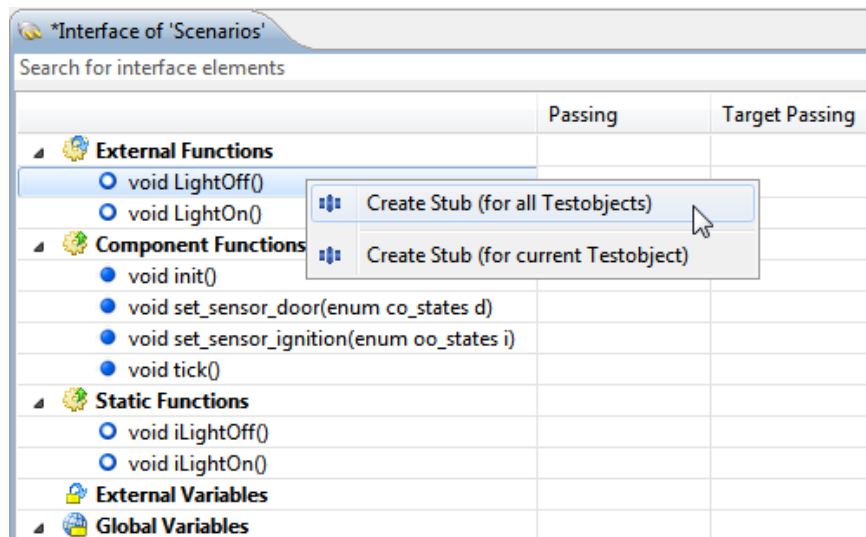

Figure 5.75: Creating the stubs
- Rightclick the function “LightOff()” and choose “Create Stub” (see figure 5.75).